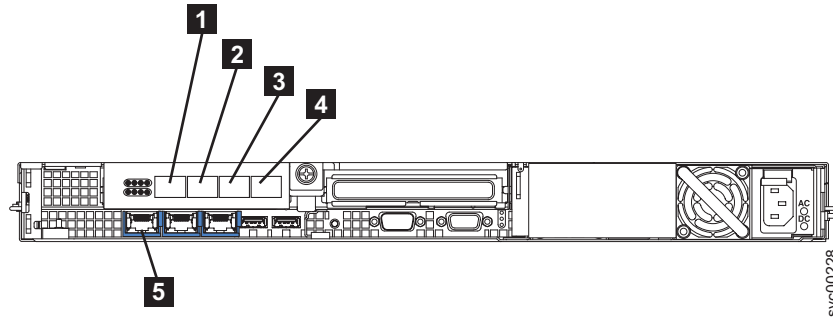

Figure 35. Connectors at the back of the SAN Volume Controller 2145-8G4
1. Connect the Ethernet cable to Ethernet port 1 **5** in Figure 35 on page 59.